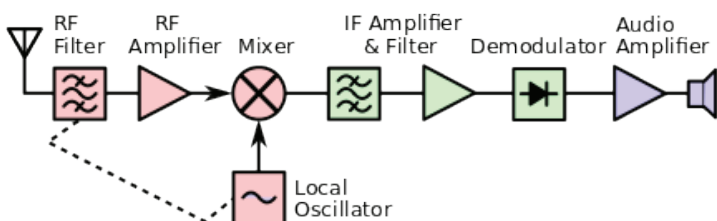

Figure 2: Block diagram of the signal flow in a superheterodyne radio receiver: power flow is omitted for clarity.
Since the invention of the superheterodyne radio receiver (Figure 2) in the early 20th century, this design has dominated radio communications, and it is used in television (TV), as well. An oscillator, tuned in synchronization with the radio-frequency (RF) filter that selects broadcasts from a range of frequencies, supplies electrical energy that beats in the mixer with the RF signal, dropping it down to a more manageable intermediate frequency. This signal is subsequently amplified, demodulated and again amplified in audio stages and, finally, fed to the speaker.